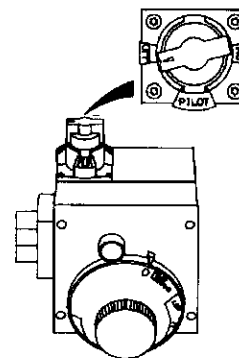
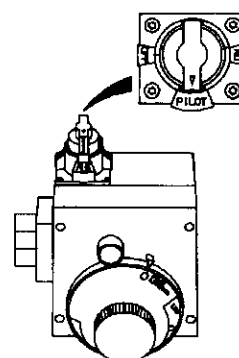

Figure 6
Figure 7
4. Turn gas control knob clockwise () to "OFF" position. Knob cannot be turned from "PILOT" to "OFF" unless knob is depressed slightly. **DO NOT FORCE.** (Figure 6, page 19)
5. Wait five (5) minutes to clear out any gas. If you then smell gas, **STOP!** Follow "B" in the safety information above on this label. If you don't smell gas, go to the next step.
8. If you don't smell gas, turn knob on gas control counter clockwise () to "PILOT" position. (Figure 7, page 19)
9. Push in control knob all the way and hold down. Immediately light the pilot with a match. Continue to hold control knob in for about one (1) minute after the pilot is lit. Release knob and it will pop back up. Pilot should remain lit. If it goes out, repeat steps 3 through 8.
- If the pilot will not stay lit after several tries, depress and turn the gas control knob clockwise () to "OFF" and call your service technician or gas supplier. (Figure 6, page 19)